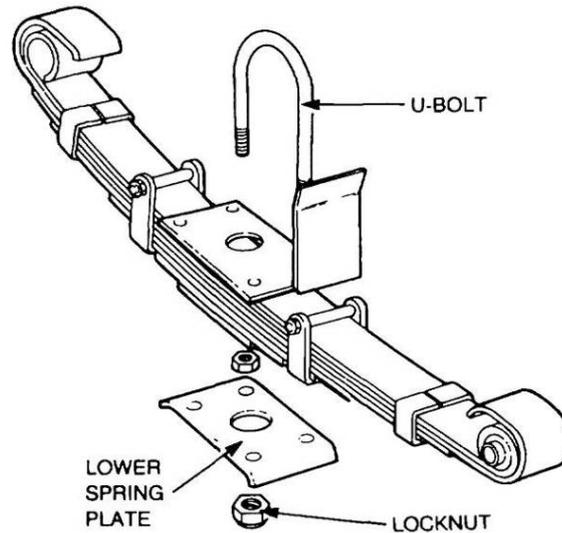

Figure 155 Removal of the U-Bolt and Retaining Plate
- h. Remove the four locknuts from the U-bolts (Figure 155). Discard the locknuts.